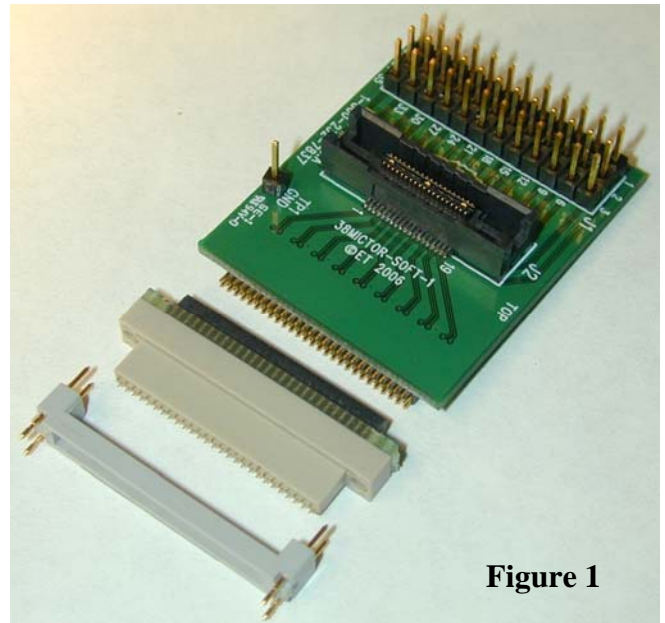

Figure 1
1. The AS-MICTOR38TP-SOFTTCH-1 consists of (Figure 1):
- a. one (1) pogo-pin base
- b. one (1) breakout card and
- c. two (2) stainless steel screws
- c. Target PCB with appropriate pad layout and mounting holes per the Pro Series Soft Touch requirement found in (2).